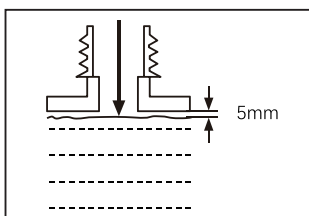

Fig. 7
4. Add suitable fuel into the fuel tank. Leave a minimum 5 mm of space between the top of the fuel and the inside edge of the tank to allow for expansion (Fig. 7).